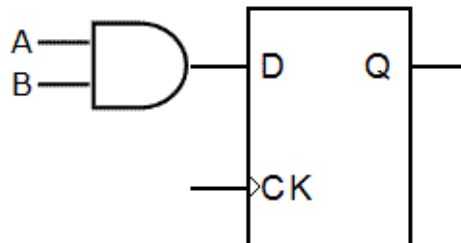

Figure 1. A simple D flip-flop circuit.
Prepare a circuit schematic diagram for the circuit in Figure 1. Assume the two inputs, *A* and *B* of the AND gate are connected to toggle switches, CK (clock) is connected to a push button and the output *Q* is connected to an LED. Use one of the flip-flops on a 74HCT74 chip and also connect the "set" and "reset" (or "clear") inputs of that flip-flop to push buttons. (Your circuit schematic should indicate this - you can use the flip-flop symbol shown in the pinout diagram).
1. Construct and test the D flip-flop circuit shown in Figure 1 using the circuit schematic diagram that you have prepared. Demonstrate to yourself and your partner that the output (Q) can only change on the rising edge of the clock. Document your tests.